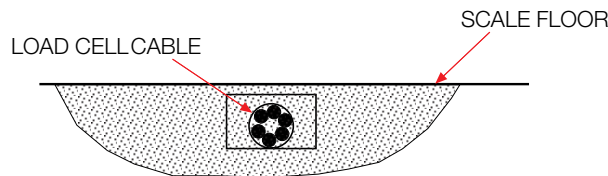

Figure 2-5. Cable Protection
7. The cable must be routed to the indicator in a manner that will protect the cable from damage. The method of cable protection in non-washdown applications is shown in Figure 2-5. Leave a loose coil of excess cable under the scale to facilitate lifting of the scale for servicing and cleaning.